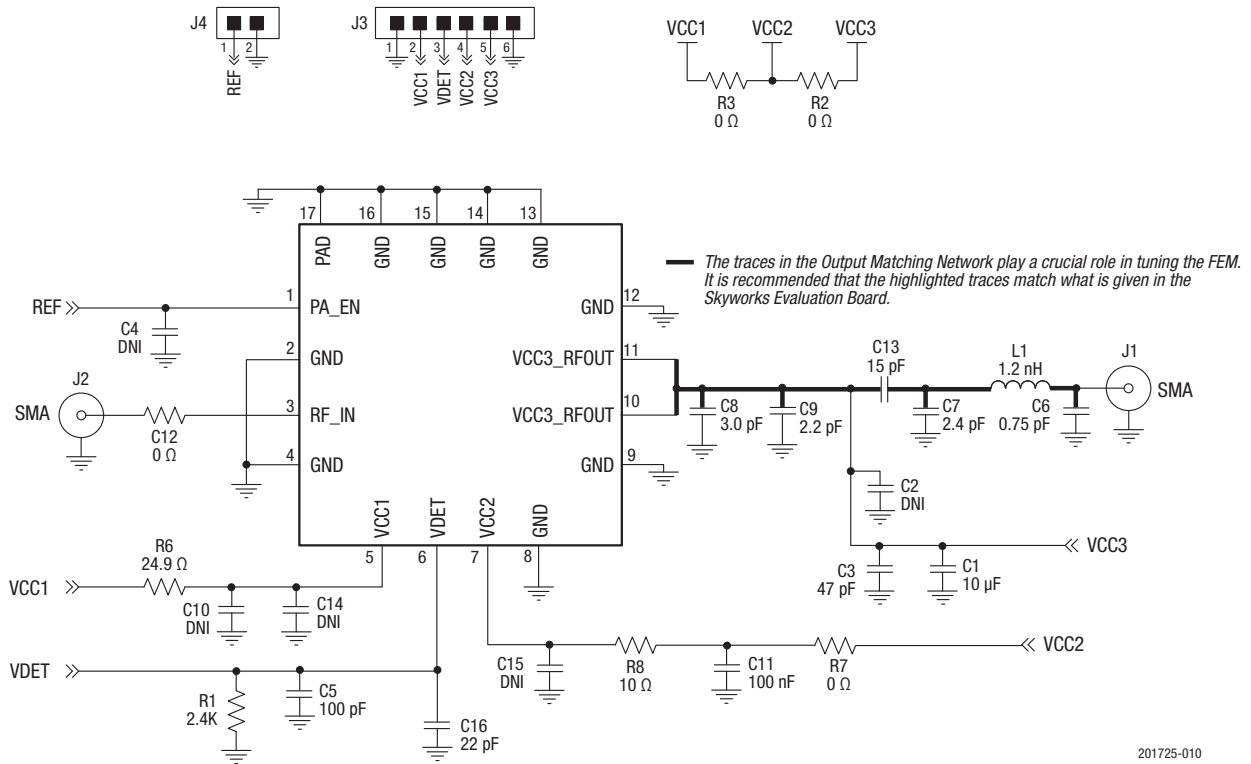

Figure 10. SKY65900-11 Typical Application Schematic
The SKY65900-11 Evaluation Board is used to test the performance of the SKY65900-11 PA. A typical application schematic diagram is provided in Figure 10.
- Bypass capacitors should be used on the DC supply lines. An RF inductor is required on the VCC supply line to block RF signals from the DC supply. Refer to the schematic drawing in Figure 10 for further details.